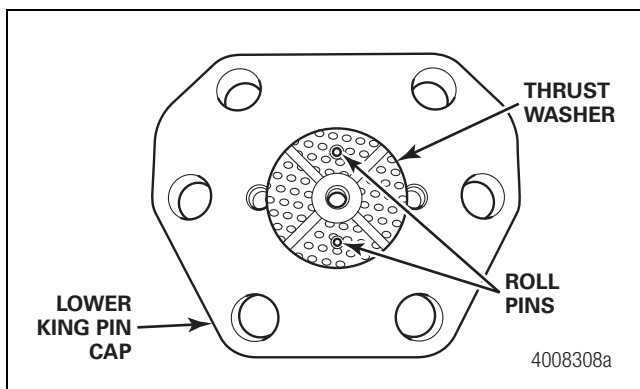

Figure 8.14
- If removed, install new roll pins. The roll pins must not stand out above the shim pack and thrust washer. Figure 8.14.